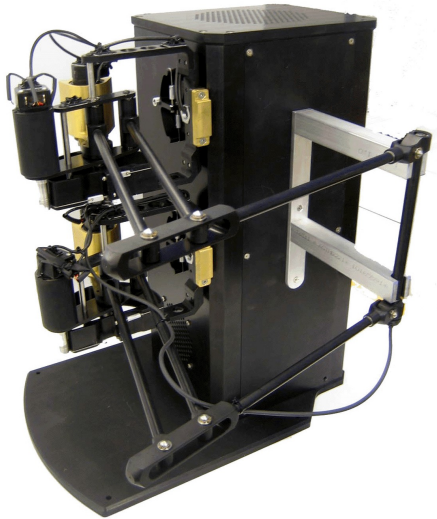

Figure 13: HD² In Home Position
The HD² calibration procedure consists of positioning the device in its home position and of presetting each actuated joint position reading to its corresponding pre-computed angular value (according to the HD² kinematic model). The HD² home position is depicted in Figure 13.
- Step 3. Position the HD² as shown in Figure 13, and push the end-effector handle inside the calibration jig holding brackets and push it down. A tight fit must be obtained, as shown in Figure 13.